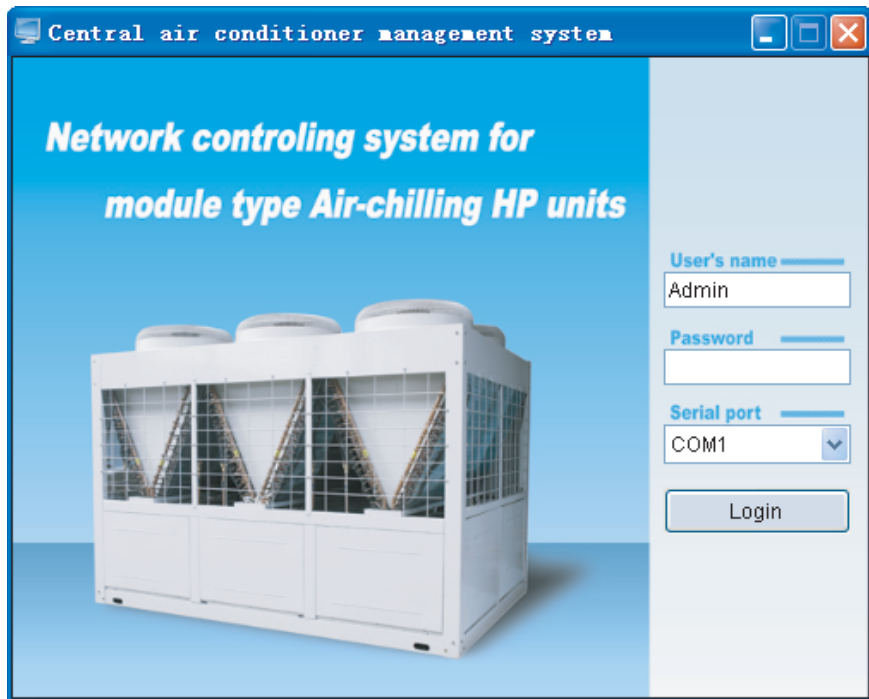

Fig. 4-5
- 1) The LOGIN window as Fig. 4-5.